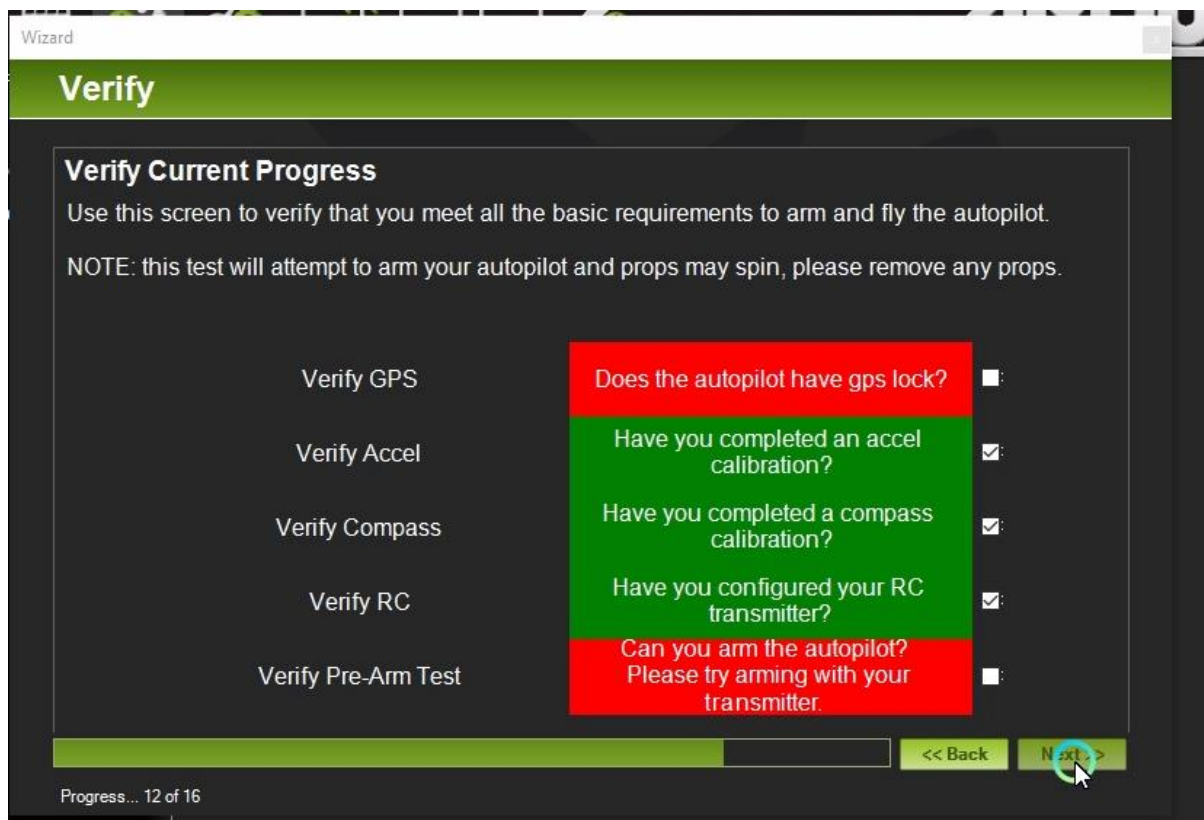

Fig.4.16
18. Now the verified things will change to green and others will be in red. Refer.Fig.4.16. Click Next.